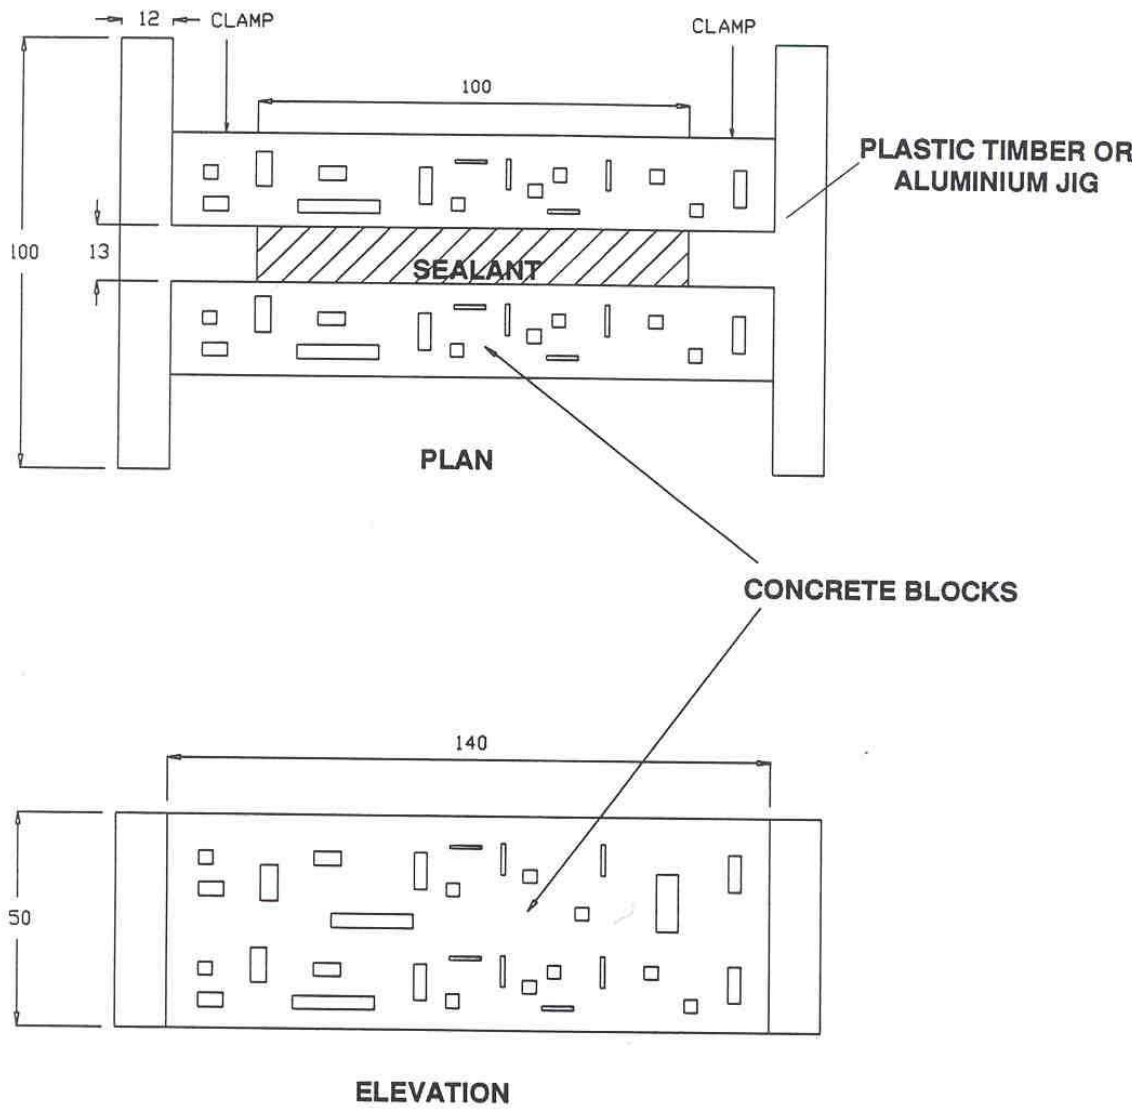

FIGURE 1
- (c) Assembly jig as detailed in Fig.1, set up so that the sealant may be poured into the space (100 x 50 x 13 mm) between the blocks.